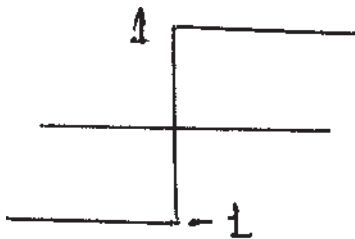

Fig 4.1
- Explain Transfer function shown in fig 4.1. Explain it's applicability with example. [8]